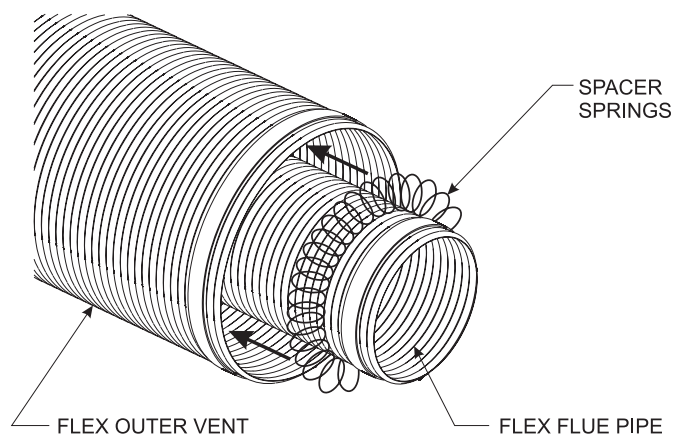

Figure 57
2. Check to see that the vent spacer springs are located around the flue vent at 8 inch intervals along its length. **See Figures 57 and 58.** If not, stretch the spacer springs to about 15 inches long and wrap them around the flue, then interlock the ends of each spring. Maintain equal distance between spring spacers.